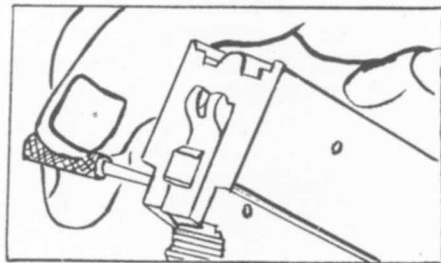

Fig. 9
4. To withdraw the extractor, remove the extractor spring retaining pin after which the extractor spring retainer, extractor spring, and extractor can be taken from the breechblock. (Fig. 9). It is desirable to occasionally remove carbon and residue that forms in the slot underneath the extractor. A round toothpick or similar wooden instrument is suitable for this purpose, and will not scratch the metal.